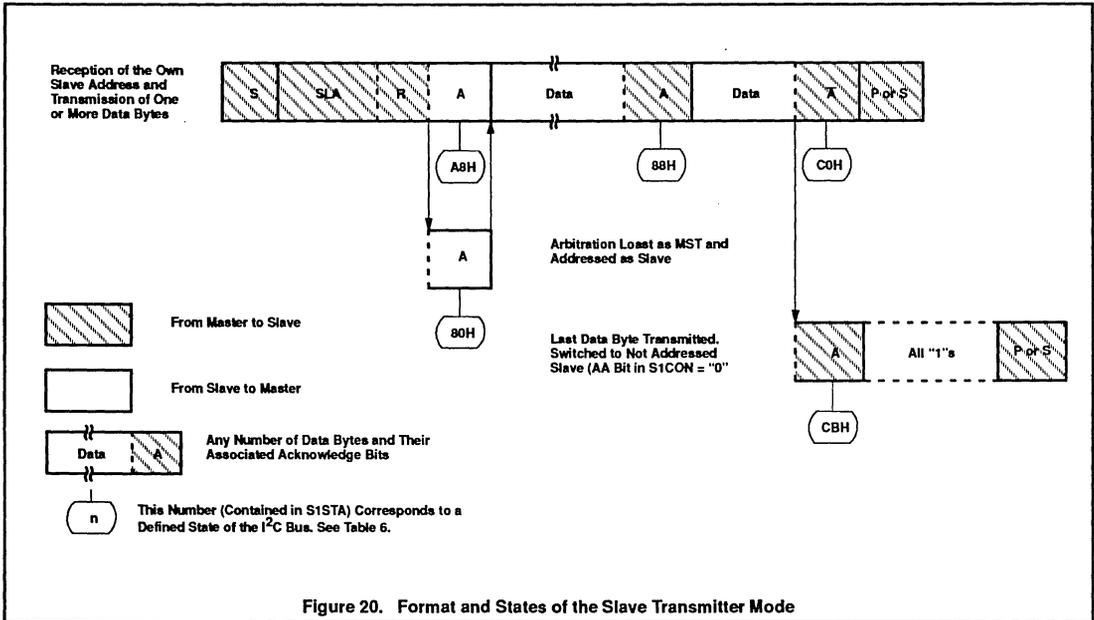

Figure 20. Format and States of the Slave Transmitter Mode
When WIO1 is in the addressed slave transmitter mode, state C8H will be entered after the last serial is transmitted (see Figure 20). When SI is cleared, SIO1 leaves state C8H, enters the not addressed slave receiver mode, and the SDA line remains at a high level. In state C8H, the AA flag can be set again for future address recognition.
Slave Transmitter Mode: In the slave transmitter mode, a number of data bytes are transmitted to a master receiver (see Figure 20). Data transfer is initialized as in the slave receiver mode. When S1ADR and S1CON have been initialized, SIO1 waits until it is addressed by its own slave address followed by the data direction bit which must be "1" (R) for SIO1 to operate in the slave transmitter mode. After its own slave address and the R bit have been received, the serial interrupt flag (SI) is set and a valid status code can be read from S1STA. This status code is used to vector to an interrupt service routine, and the appropriate action to be taken for each of these status codes is detailed in Table 6. The slave transmitter mode may also be entered if arbitration is lost while SIO1 is in the master mode (see state B0H).